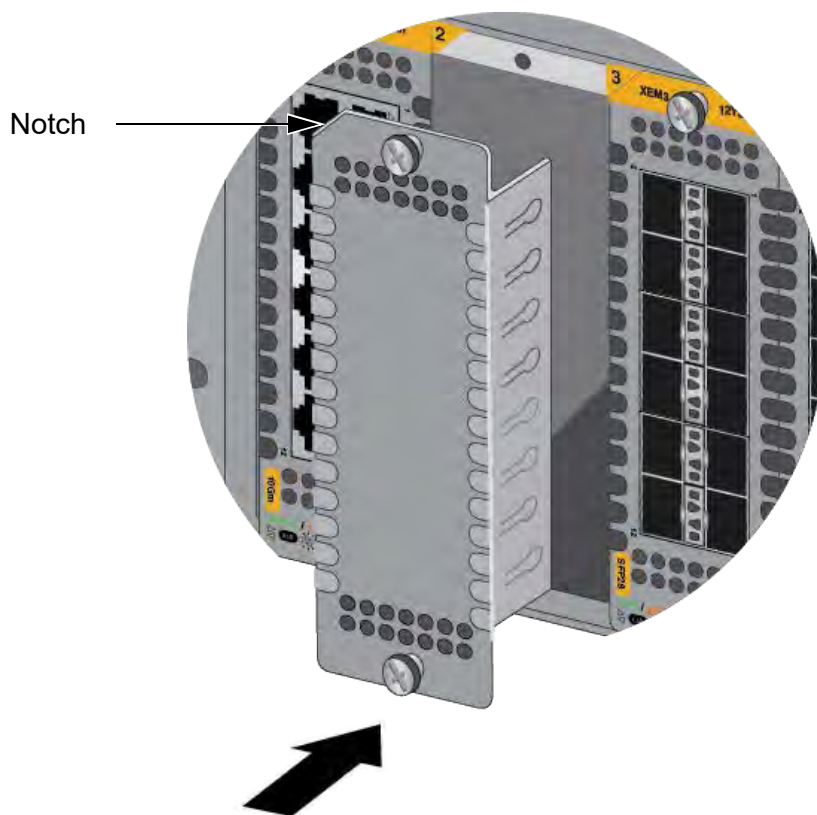

Figure 46. Installing an XEM3 Module Slot Panel
1. Position the slot panel with the notch in the upper left and slide it into the empty module slot. Refer to Figure 46.